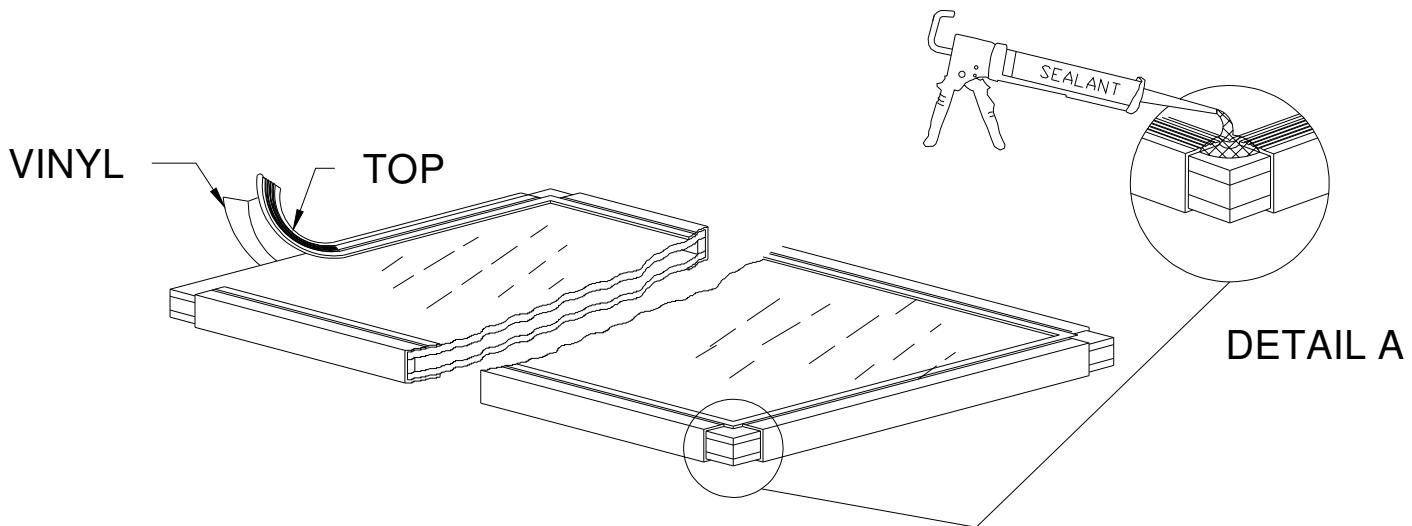

Figure 1:
2. Cut glazing vinyl at corners as shown in Figure 1, Detail A.